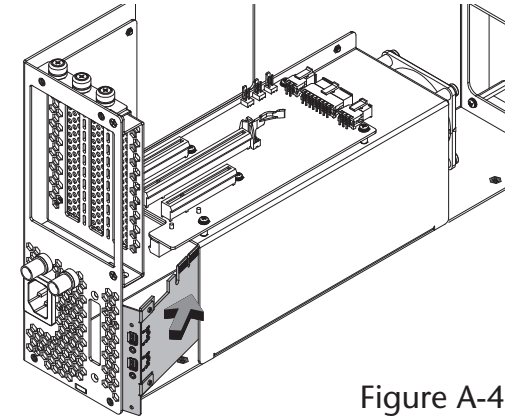

Figure A-4
6. Grasping the Thunderbolt interface card by its edges, insert the card back into the module (**Figure A-4**).